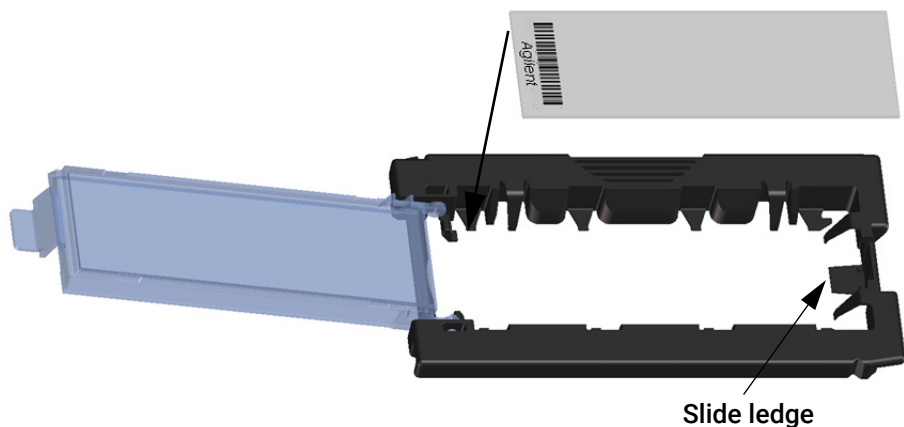

Figure 18. Inserting slide into the slide holder
- a Hold the slide at the barcode end and position the slide over the open slide holder. Make sure that the active microarray surface faces up with the barcode on the left, as shown in **Figure 18**.
- b Carefully place the end of the slide without the barcode label onto the slide ledge. See **Figure 18**.